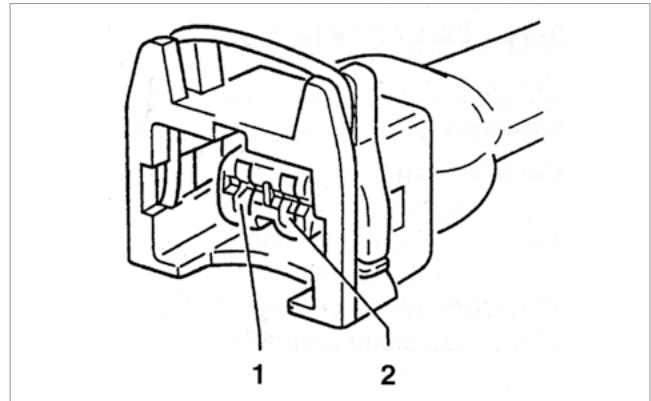

Fig. 5: Contact 1 or 2
- Measure the voltage between the contacts and engine ground (see Fig. 5).
- As the pin assignments of the connector on the pressure transducer vary, it must first be determined on which contact the supply voltage is present (see Fig. 5).